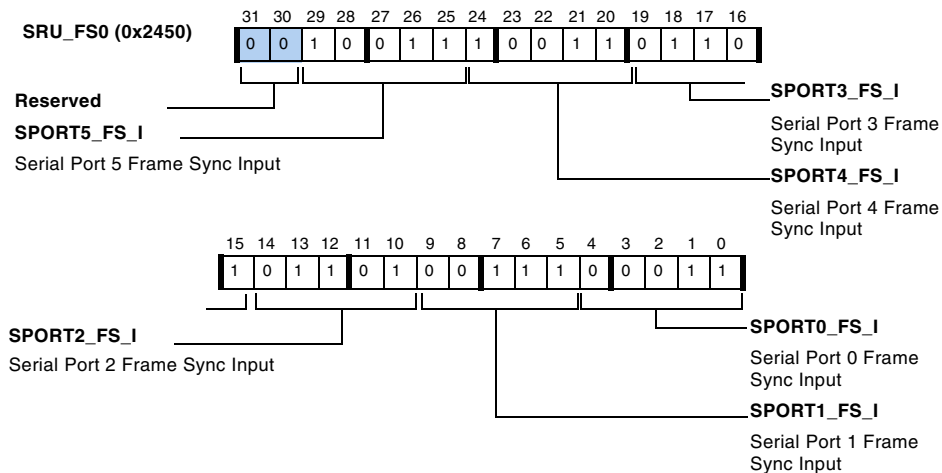

Figure A-43. SRU\_FS0 Register
- SRU\_FS0, described in Figure A-43